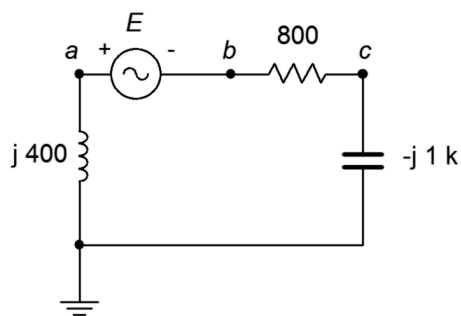

Figure 2.26
44. For the circuit of Figure 2.26, determine v_b , v_c and v_{ac} . E is a 1 volt peak 25 kHz sine.